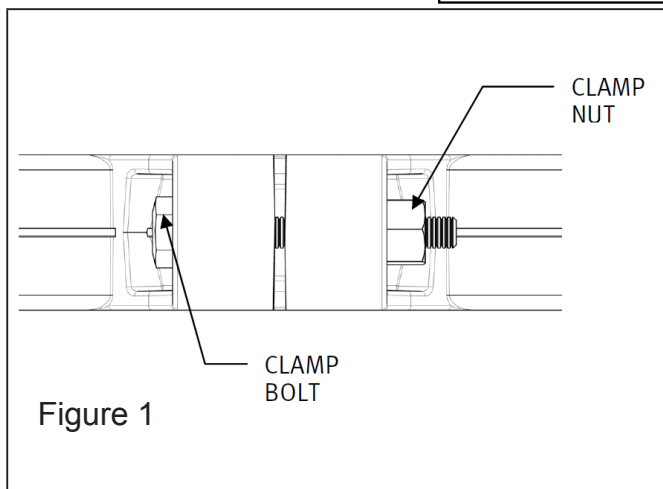
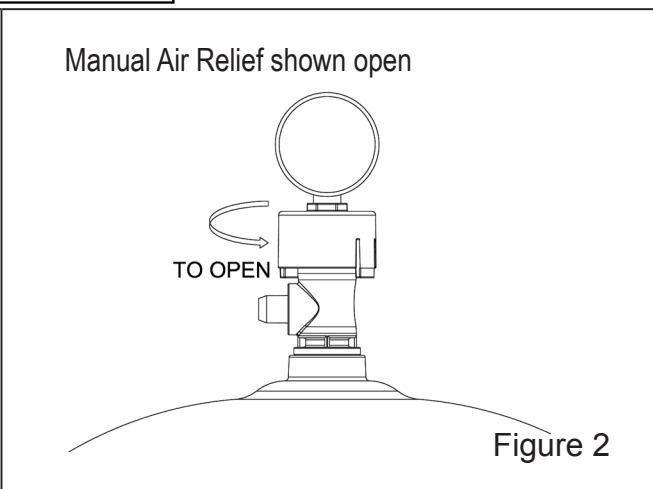

Figure 1
Figure 2
1. Use **ONLY** Original components; Non-Original clamp components may fail in use and cause explosive component separation. Verify that upper and lower filter bodies are properly secured with the filter body clamp. Never rely on hand tightening the clamp nut to the clamp bolt. Using a 3/4" socket on a torque wrench, torque clamp nut to clamp bolt to 150 inch-lbs. (See Fig 1) Verify that the filter manual air relief body is in the LOCK position, and no filter components are missing, damaged or not genuine AquaPro components. (See Fig 2)
4. Place the manual air relief valve in OPEN position. (See Fig 2)